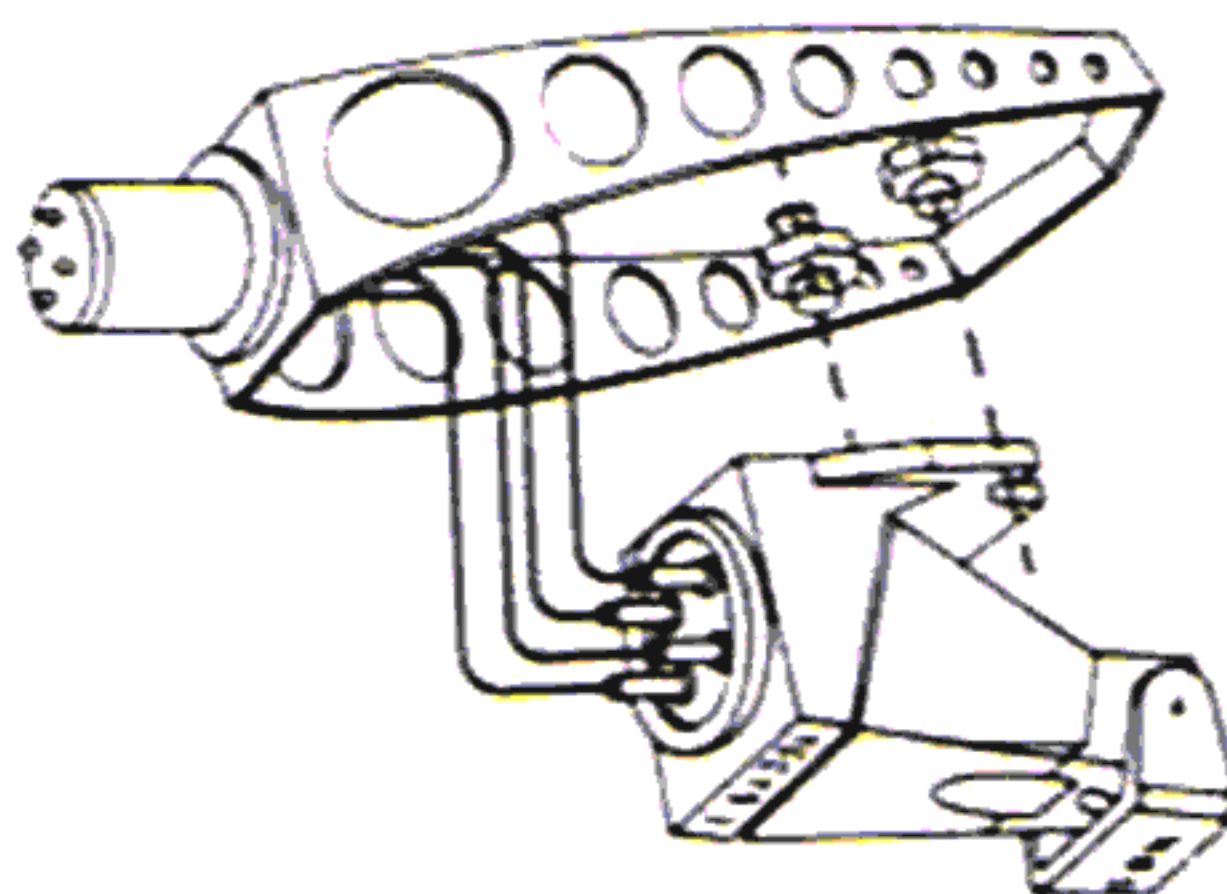

Fig. 3
- 4) Slide cartridge mounting bracket under the screws and tighten screws up fully (fig. 3).